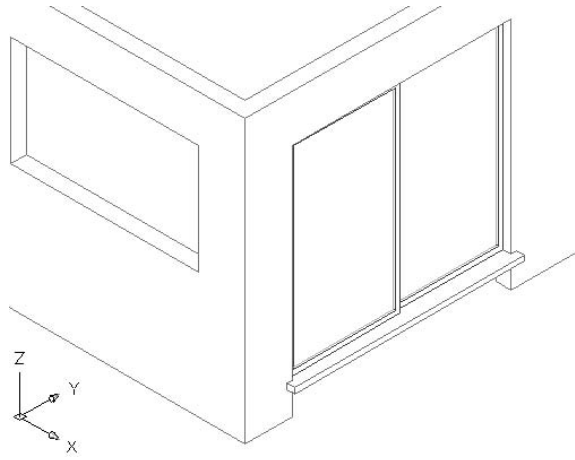

FIGURE A.21: The completed sliding glass door
14. Turn off the Doors layer, and thaw all 3D layers except 3D-Balcony. Use Hide to get a view of the completed sliding glass door in 3D (see Figure A.21).